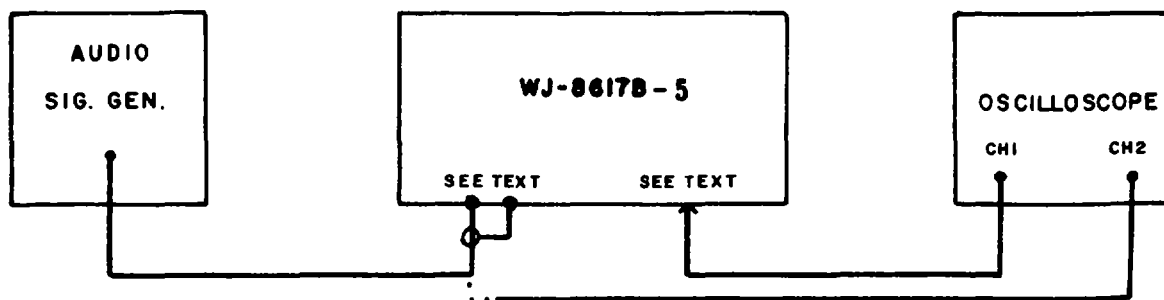

Figure 4-4. Audio/Video/COR Performance Test, Equipment Connections
1. Connect the test equipment as illustrated in Figure 4-4, and remove the FM Demodulators from their slots on the RF/IF motherboard.